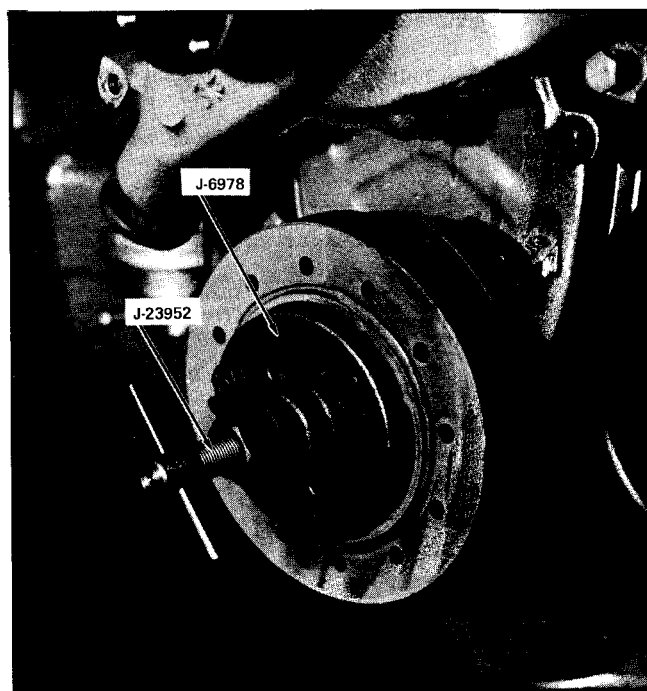

Fig. 6-124 Installing Harmonic Balancer
1. Install appropriate threaded end of tool J-23952 into crankshaft (Fig. 6-124).